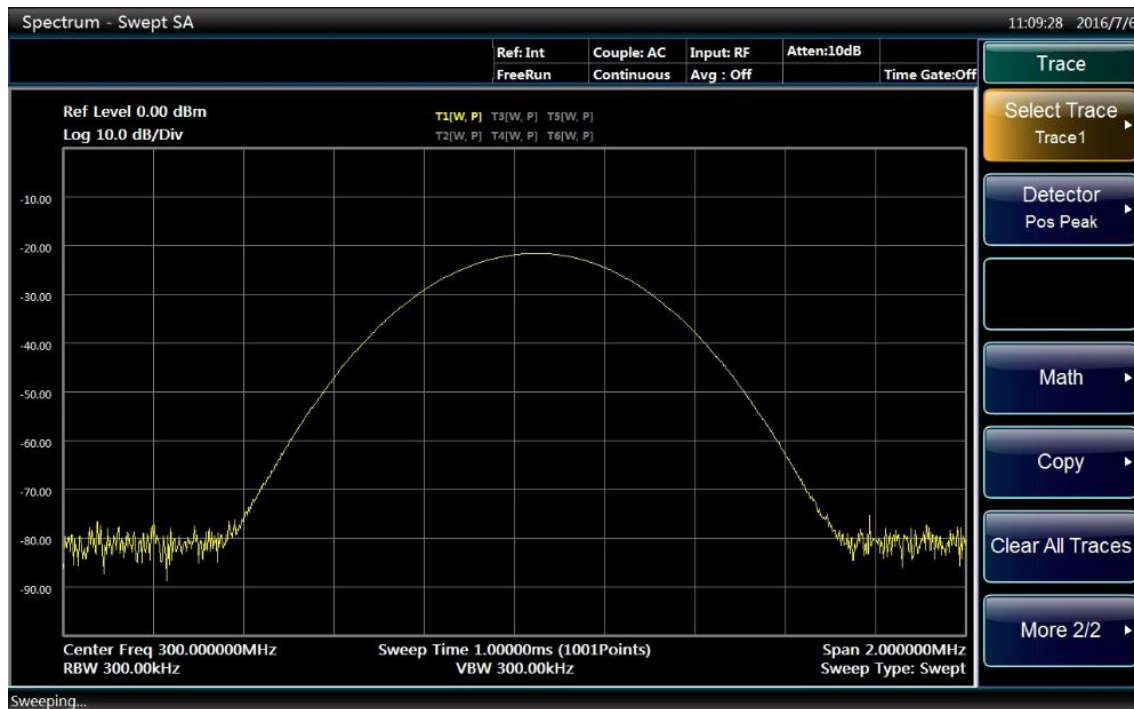

Fig. 4.8 Spectrogram when resolution bandwidth (300 kHz) is larger than signal frequency bandwidth
- Press [Trace], [Menu 1/2 ►], [Detector ►] and [Positive Peak] to switch the detector mode to positive peak. Then you can see there is only one signal peak on the screen of the analyzer as shown in Fig. 4.8.